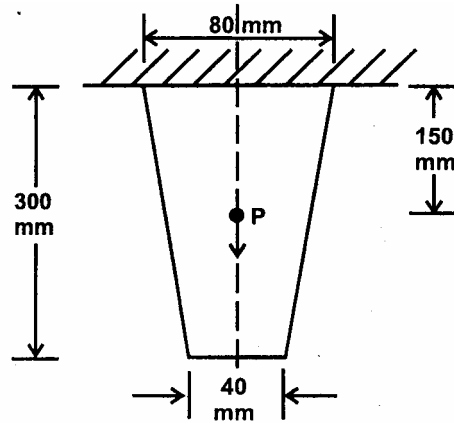

figure 2.6
6. For a tapered bar of uniform thickness $t=10\text{mm}$ as shown in figure 2.6. find the displacements at the nodes by forming into two element model. The bar has a mass density $\rho = 7800 \text{ Kg/M}^3$, the young's modulus $E = 2 \times 10^5 \text{ MN/m}^2$. In addition to self weight, the bar is subjected to a point load $P= 1 \text{ KN}$ at its centre. Also determine the reaction forces at the support.